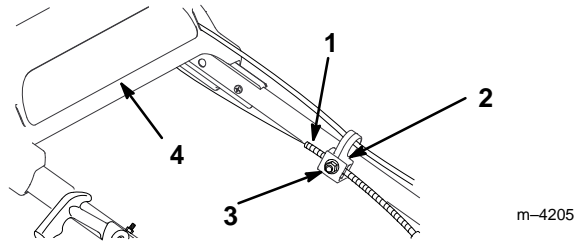

Figure 20
2. Loosen the cable support nut (Fig. 20).
4. With the upper handle pushed and held back as far as possible and while holding the drive bracket down, pull the cable jacket down (toward the mower) until all slack is removed from the cable (Fig. 20).
5. Tighten the nut on the cable support (Fig. 20).